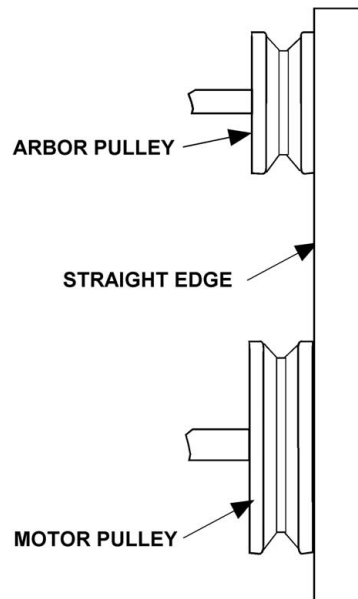

Figure 16
10. Confirm belt alignment using a straight edge as shown in Figure 16. **NOTE:** If belt needs aligning, loosen the set screws on a pulley and slide the pulley forward or backward on the shaft as needed. Re-tighten set screws.